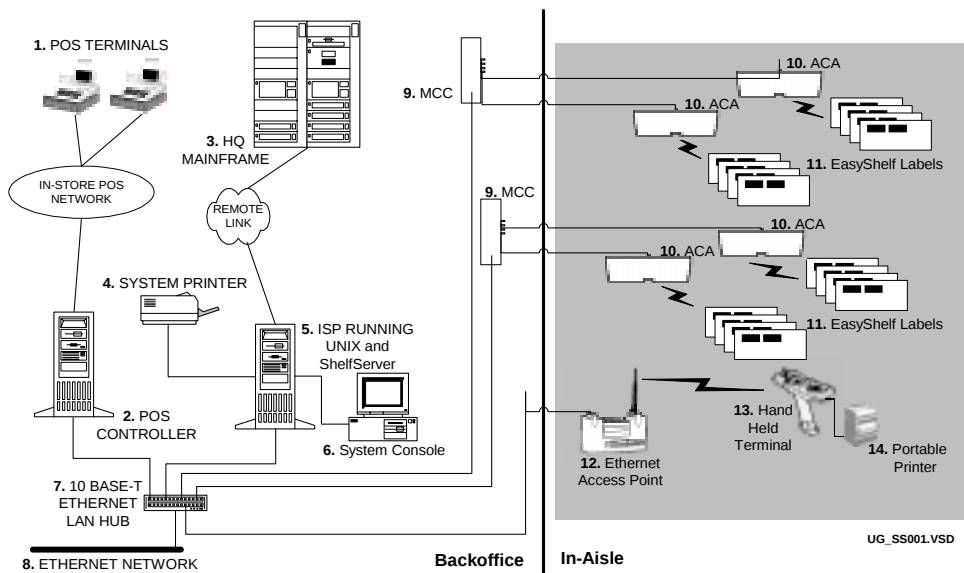

Figure 1-1. Typical ShelfNet System Overview
Figure 1-1 Typical ShelfNet System Overview shows how a store-wide ShelfNet installation is typically configured to run ShelfServer software to control and maintain ESLs.
In *Figure 1-1 Typical ShelfNet System Overview*, two **POS terminals (1)** are shown. For large installations, there are many more POS terminals, in many different configurations. At each store, the POS terminals are connected into a POS network loop with a POS controller running its own operating system (OS). The **POS Controller (2)** is linked with an existing **ISP (5)**, running a ShelfNet compatible operating system and ShelfServer. The store headquarters or chain-wide **Mainframe (3)** is remotely linked with ShelfServer running on the ISP. Also linked to the ISP is a **System Printer (4)**, which is used by store personnel to print ESL overlays and reports.
The ShelfNet system is made up of several major hardware and software components that interact with the computer system in each store. This section describes each of the major hardware components. The number in parenthesis next to the component name allows you to relate each component to its position within the system by referring to Figure 1-1.